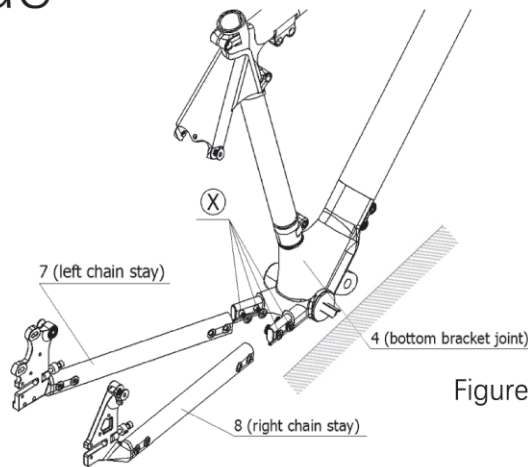

Figure 16-1.
a. Turn the bike as shown in Figure 16-1. With the help of **two** 4 mm Allen keys, remove the four pre-locked bolts ⊗ on Part 4.
b. Insert Part 7 and Part 8 into Part 4, as shown in Figure 16-1.